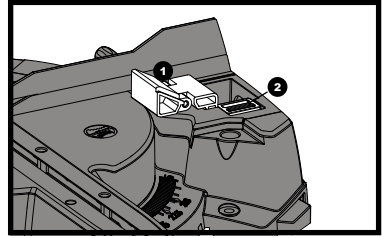

Fig 31
- 2) pull the stop (1) from its stored position upwards and to the left. The stop will deploy.
- 3) Slide the release lock (2) backwards to lock the stop into position.
- 4) To stow away, reverse the above steps. (See fig. 31)